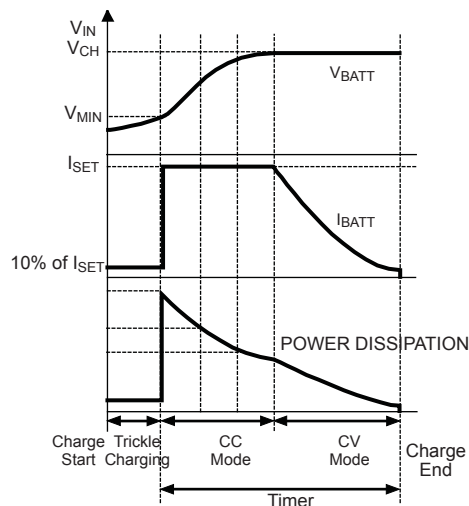

Figure 2—MP2608 Typical Charging Profile
Figure 2 below shows the typical charging profile for the MP2608. For a fully depleted battery with a terminal voltage lower than 2.6V, the MP2608 will start with the trickle charge (preconditioning) at 10% of the programmed full charge current. After the battery voltage reaches 2.6V, the charger begins charging at the constant current of the programmed value (I_{CHG}) and the charge timer starts counting down. This is referred to as Constant Current (CC) mode. Once the battery voltage reaches 4.2V, the charger will operate in the constant voltage (CV) mode until the battery is fully charged. The charge current drops during CV mode, and the battery full indication is set when the charge timer is time off. The charge timer is to protect the system from charging a dead battery for excessive long time.